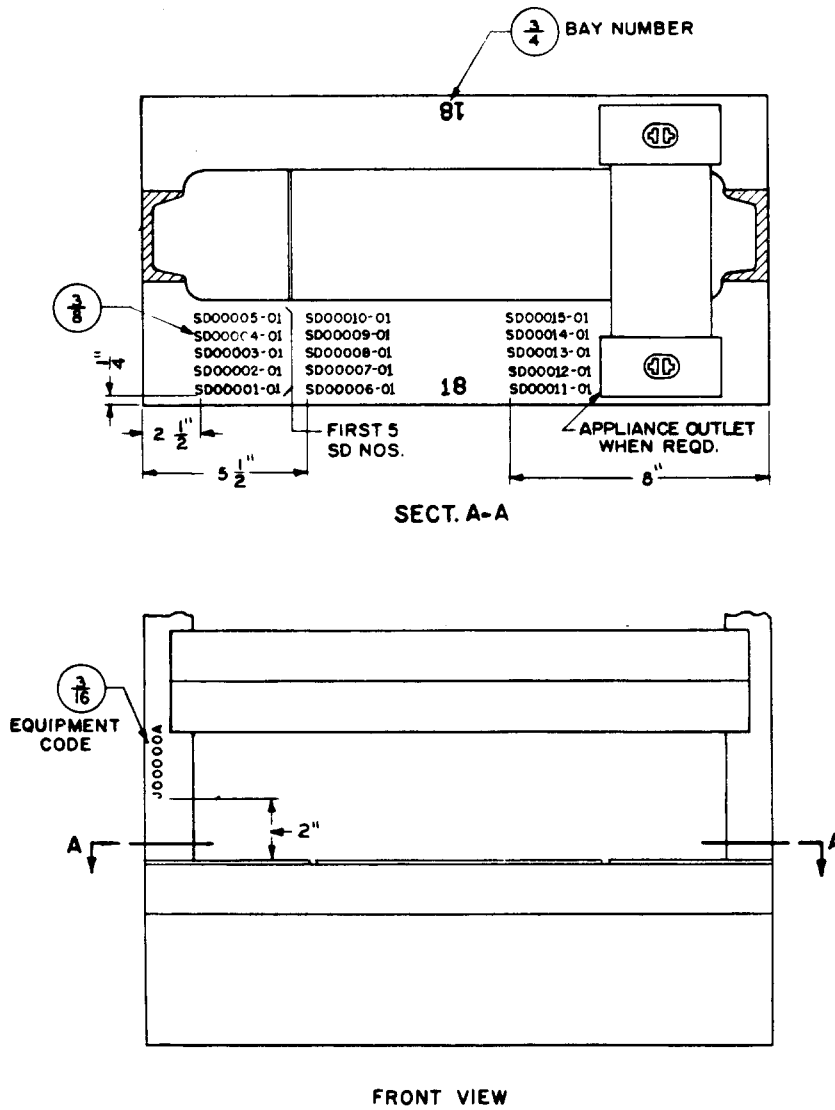

Fig. 36 – SD Drawing Number and Equipment Code Designation for Frames With Channel-type Uprights and Sheet Metal Base—Single Bay or Left Bay of 2-bay Frame
2.53 SD Drawing Numbers: Stamp the SD drawing number for the bay or frame per Fig. 36. The base and suffix number shall be stamped (example, SD-36459-01). Figure numbers shall not be stamped. On relay rack bays equipped with relay equipment units, SD numbers are not required.
2.54 Equipment Code Designations: Stamp as shown in Fig. 36.